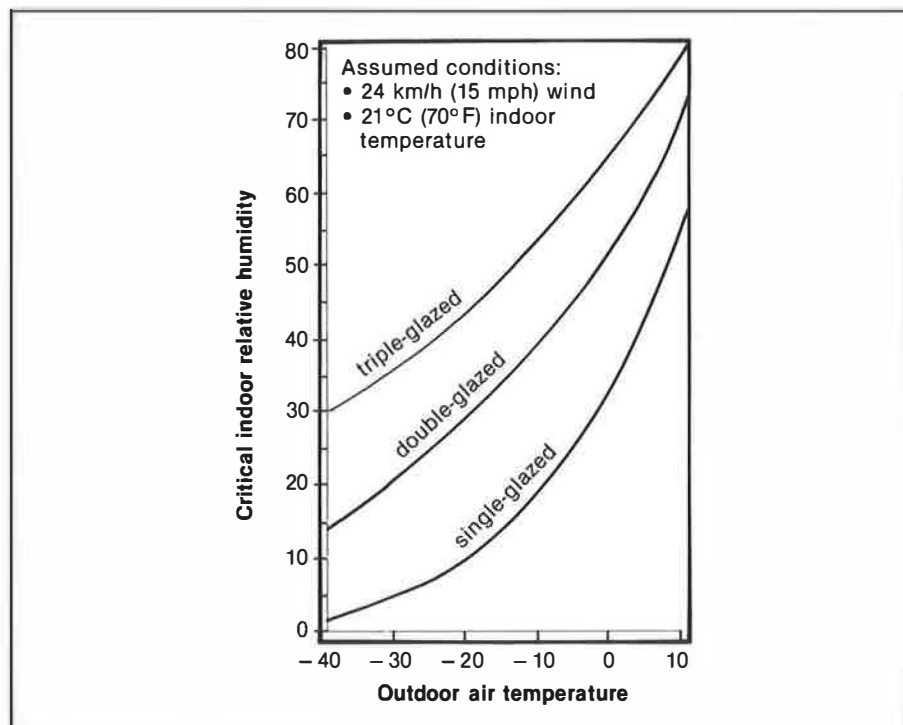

Fig. 1. Effect of glazing on condensation.
As a rough rule of thumb, condensation will occur when relative humidity (RH) levels exceed 30% for double glazing, and 45% for triple glazing, at an outdoor temperature of -20°C (-4°F) and a wind speed of 24 km/h (15 mph). See fig. 1.